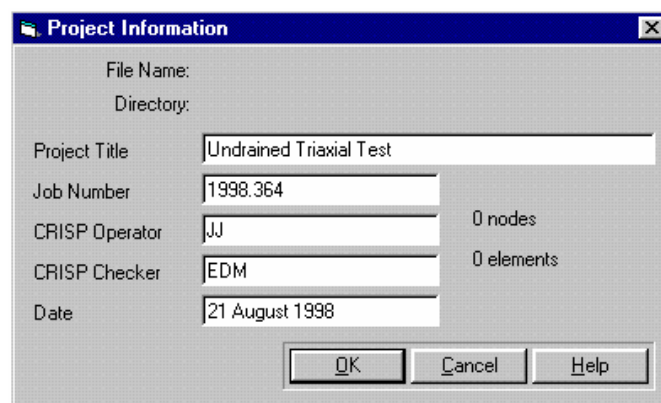

Figure 3-3: Project Information dialogue box
Step 8 The Project Information dialogue box should look similar to Figure 3-3. Click on **OK** to return to the Project Setup dialogue box once you have finished.